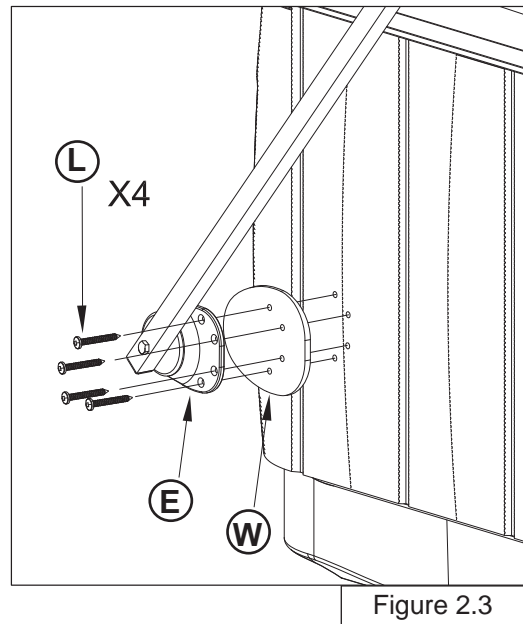

Figure 2.3
Remove the two screws (L) from the back of W or X. Making sure that the holes on Spacer (W) align with Bracket (E), secure bracket and Spacer (W) to spa using 4 Flat head Screws (L) (Figure 2.3). Bag # 3 (L) (#10 2" Flat Head screws).